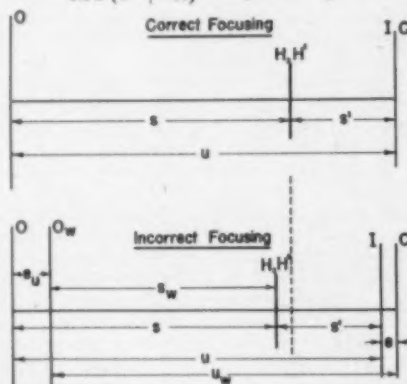

Fig. 2. Error of focusing (e) caused by an error (e_u) in determining the object distance.
The fact that charred paper is rendered as a light shade and charred writing as a dark one, indicates that the former more or less reflects infrared while the latter absorbs it (Fig. 2). This dual process of reflection and absorption results in a degree of contrast that is determined by three factors, namely, (1) the extent of charring of the paper, (2) the amount of ink residue, (3) the length of the exposure. The effects of these conditions was borne out by experiments which showed (Fig. 3) that charred paper, because of its reflective behaviour could be: (a) overexposed like any light surface; (b) made to reflect even reflected diffused illumination; (c) made more legible through increased exposure.
The photographer determines the object to image distance with an error e_u (negative in this case), and sets his focusing scale correctly for an incorrect object distance $u_w = u + e_u$, and, consequently, for an incorrect long conjugate $s_w = s - e_u$, where s is the actual distance from the lens to the object plane O. This situation is illustrated in Fig. 2. In this case, s is the only independent variable, and the error of focusing e is determined by the following equation: